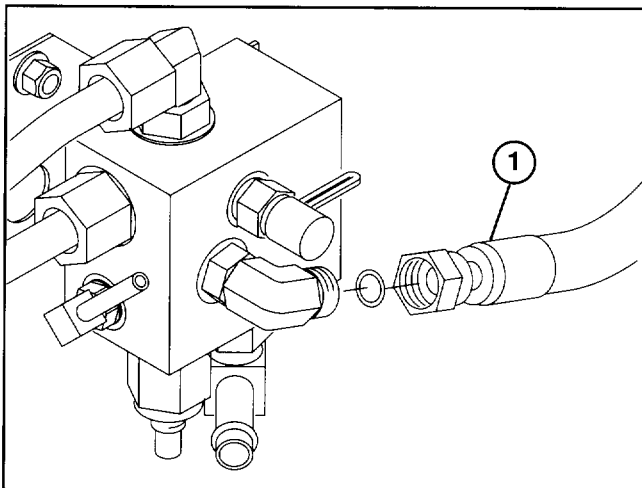

Figure 13
20. Connect hydraulic hose, previously removed from elbow fitting on bottom of lift valve, to elbow fitting on side of manifold block (Fig. 13).